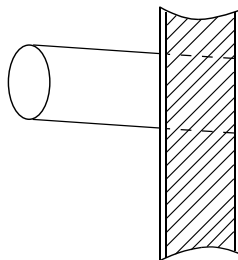

Fig 2
1. Drill a hole in the wall and insert the connecting pipe and wire through a PVC wall-through tube purchased locally. The wall hole shall be with a outward down slope of at least 1/100. (See Figure 2)